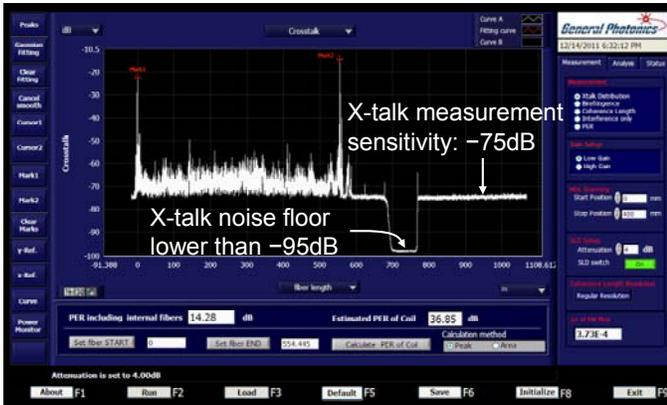

Figure 1: Instrument display showing the x-talk measurement sensitivity and x-talk measurement noise floor.
2. Defined as the system noise displayed on the polarization X-talk curve when input light is turned off during a measurement for which the DUT output power >5dBm (See Fig. 1).